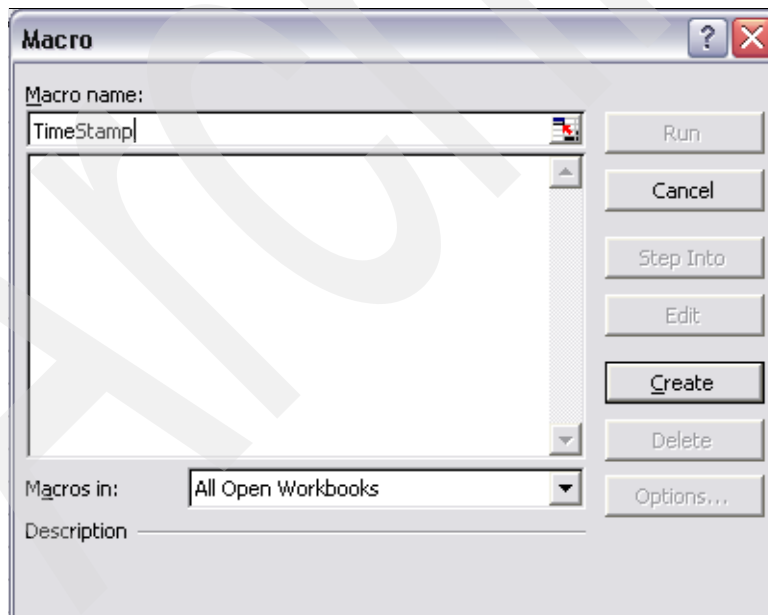

Figure 6-66 Macro name
2. Complete the macro name in the box provided and click **Create**. Give the macro a descriptive name. In this case, we use *TimeStamp*. The macro can be available from only one worksheet or from any worksheet (see Figure 6-66).